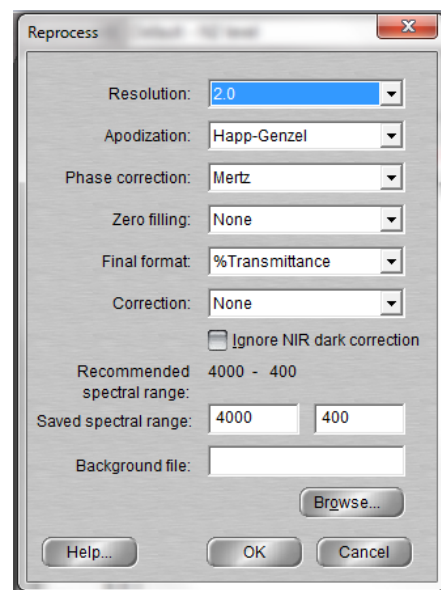

Figure 5 Reprocess Window
- 3) In the “Reprocess” window (see Figure 5) select an option for the following parameters: